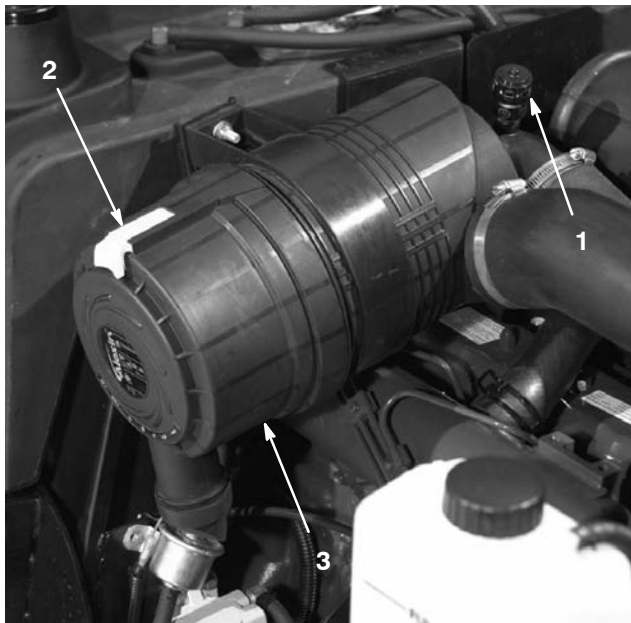

Figure 44
1. Pull the latch outward and rotate the air cleaner cover counterclockwise (Fig. 44).
7. Install the cover orienting the rubber outlet valve (Fig. 44) in a downward position – between approximately 5:00 to 7:00 when viewed from the end. Secure the latch.